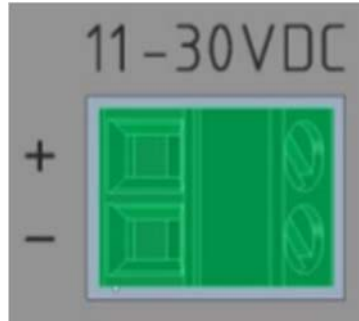

Figure 18: DC terminal block.
- On the gateway side, the cable must first be inserted through the cable gland. The DC in is the terminal block shown as in Figure 18.